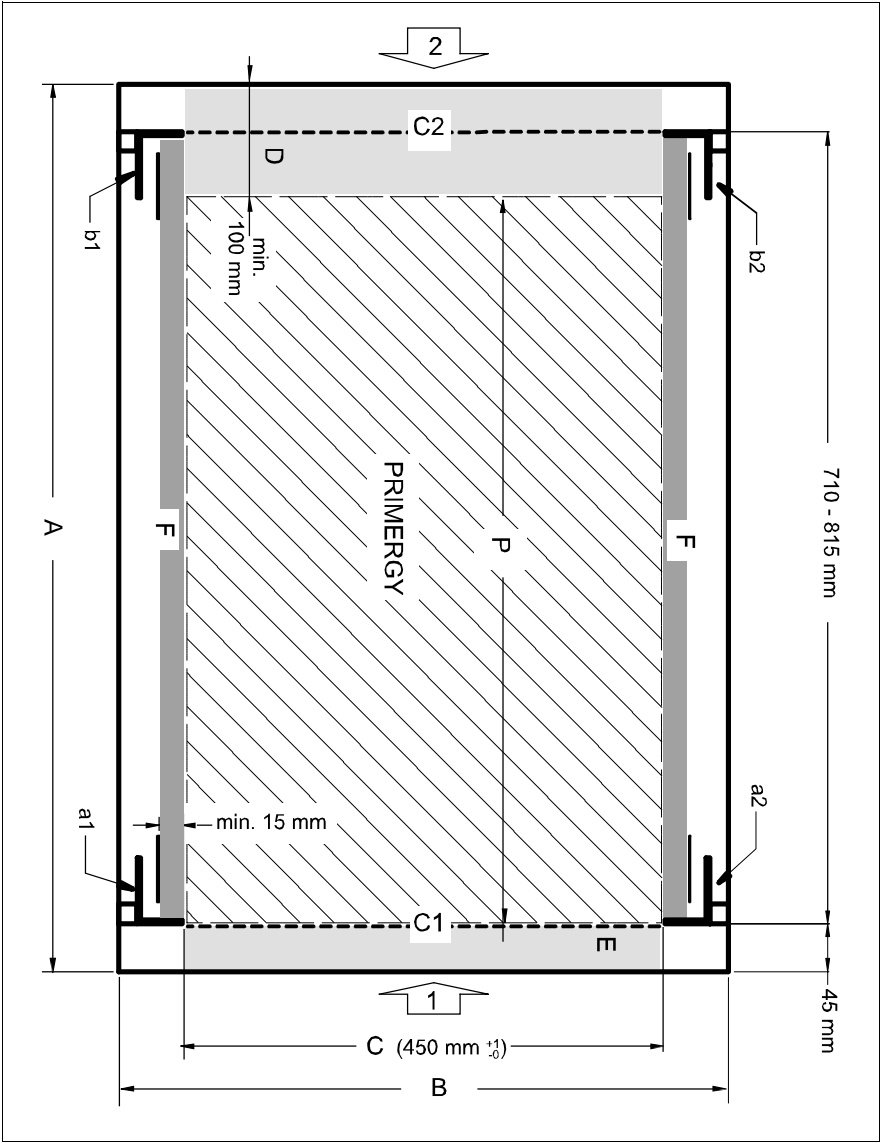

Figure 2: Mechanical conditions
- Installation dimensions (see the dimensions shown in figure 2 on page 32):